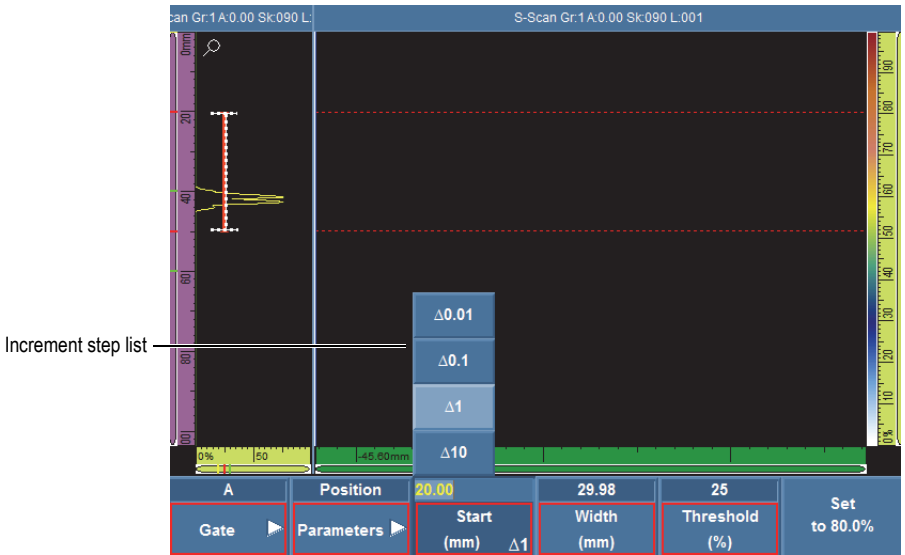
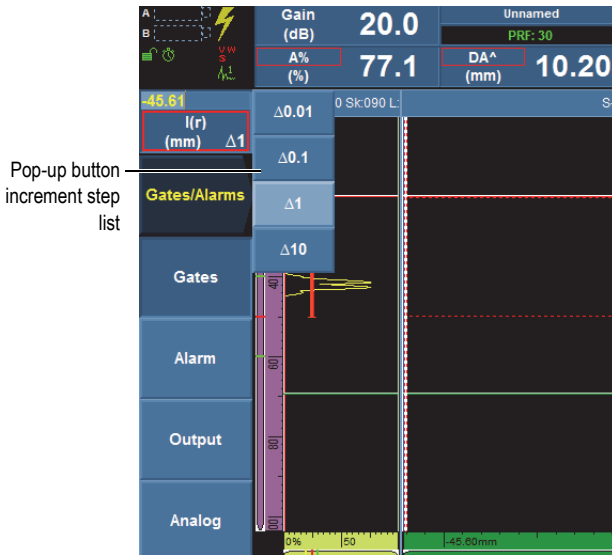

Figure 2 Parameter increment step list
Figure 3 Pop-up button increment step list
- **To change a numeric increment/decrement step (Δ) value**, click the parameter once to enable the Edit mode, right-click the numeric parameter and then, in the list, select the desired increment step (see Figure 2 on page 4). The increment list is also available for pop-up buttons (see Figure 3 on page 4).